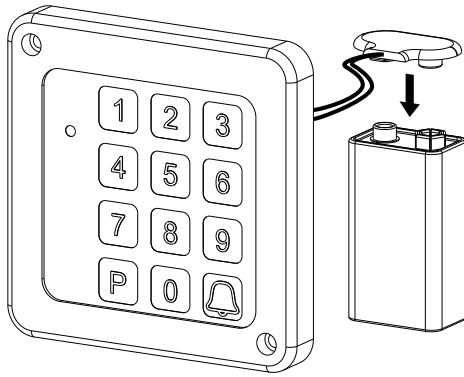

Fig. 1
- connect the battery to the keypad's front cover as illustrated in fig. 1;